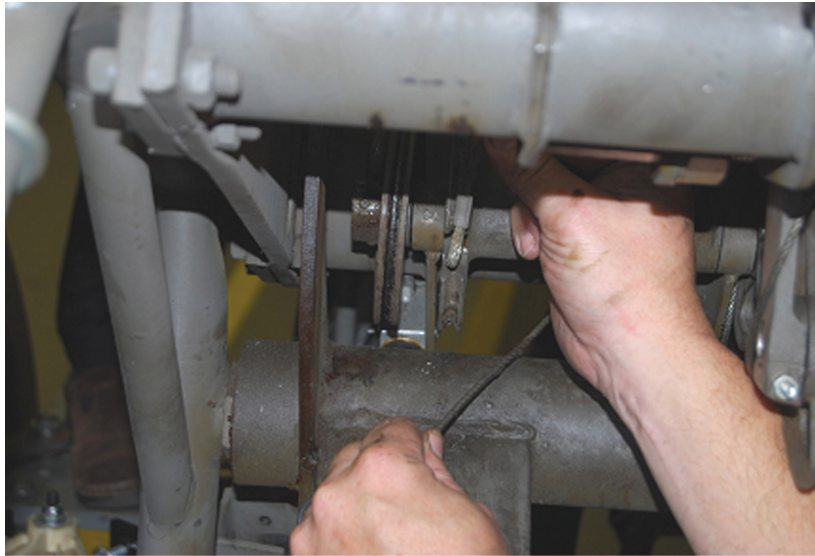
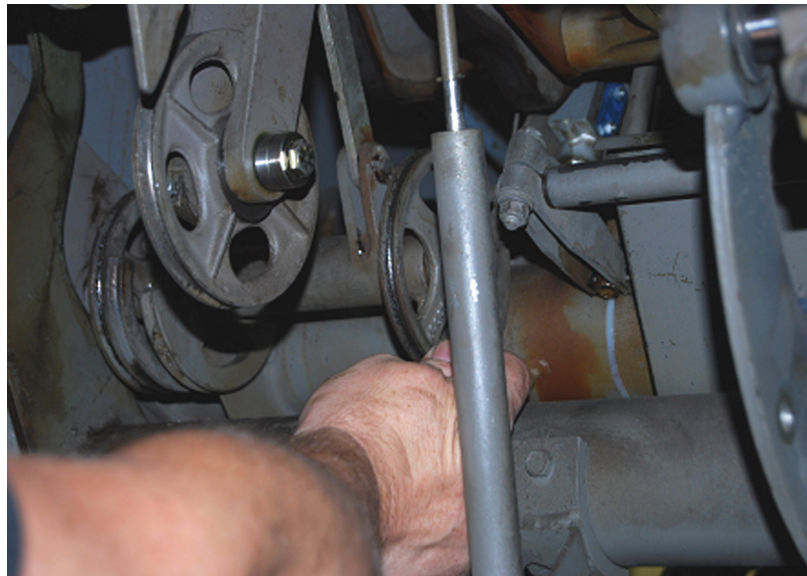

Figure 7
Figure 8
5. Remove the upper scissor cable from the upper control pulley and remove the deck jam control cable from the upper right pulley. Refer to *Figure 7* and *Figure 8*.